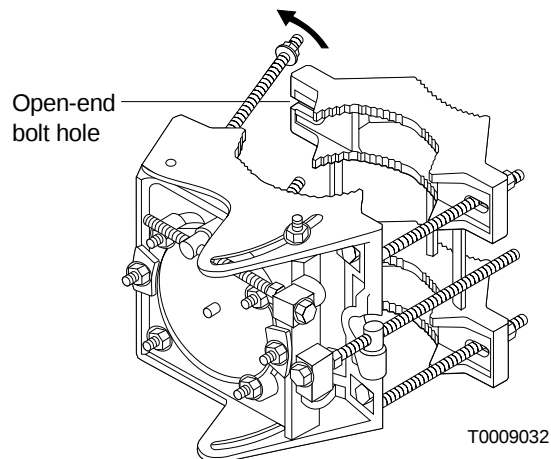

Figure 4-8 Opening the mount
2. One side of the mast clamp has two open-end bolt holes that allow the long bolts that are attached to the mast interface to swing in or out. See figure 4-8. At the side of the mount where the two open-end bolt holes are, swing the two bolts outward so you can open the mount enough to place it around the mast.